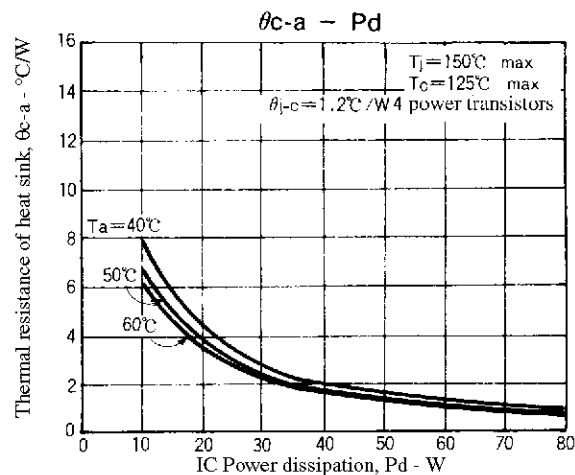

Figure 2. STK4048XI  $\theta_{c-a} - P_d$
Figure 2 shows the relation between  $P_d$  and  $\theta_{c-a}$  given from (1) and (3) with  $T_a$  as a parameter.
The thermal resistance of a heat sink is obtained from Figure 2.